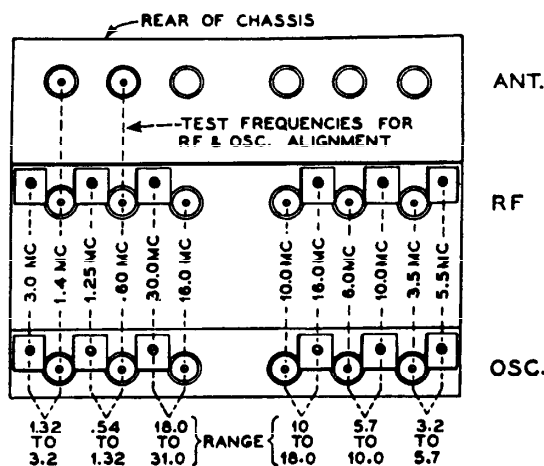

Fig. 9—Left: Diagram for tuning IF Amplifier, RF Stage and H. F. Oscillator.
As shown on the chart, Figure 9, the front row of adjustments control the H. F. oscillator frequency and consequently dial calibration.
3. Change signal generator frequency to 1.25 Mc as shown in Figure 9. Set MAIN TUNING dial on 1.25 Mc to correspond. Adjust trimmer capacitor C73 to tune in signal, and C69 for maximum response.